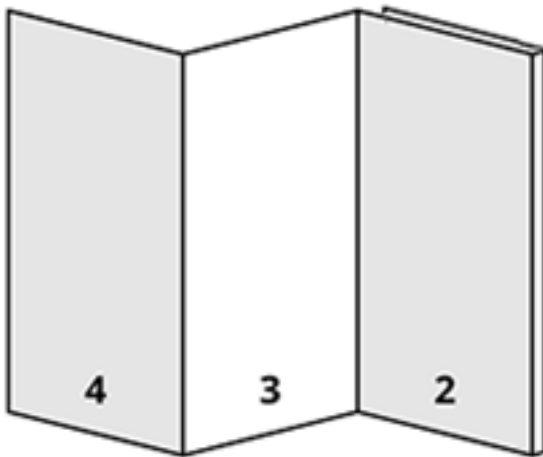

Figure 4.3: Four fold folded paper with panel 1 turned to the back.
7. If the timer beeps, his time is up and he has to fold back the first part of the drawing (see figure 4.3). This student has to make sure a tiny part of his drawing is still visible, so the next student knows how to connect his drawing to the previous part.